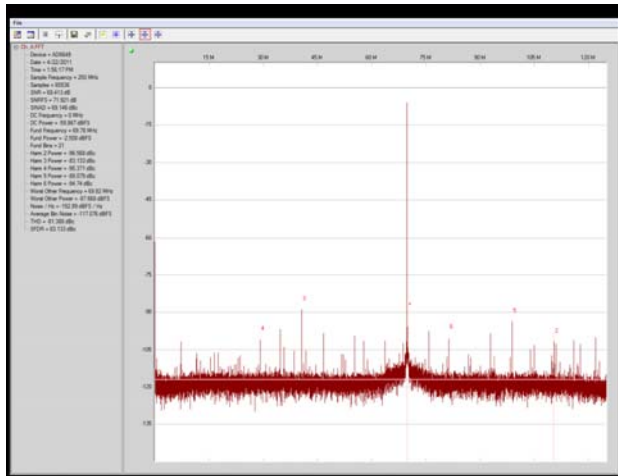
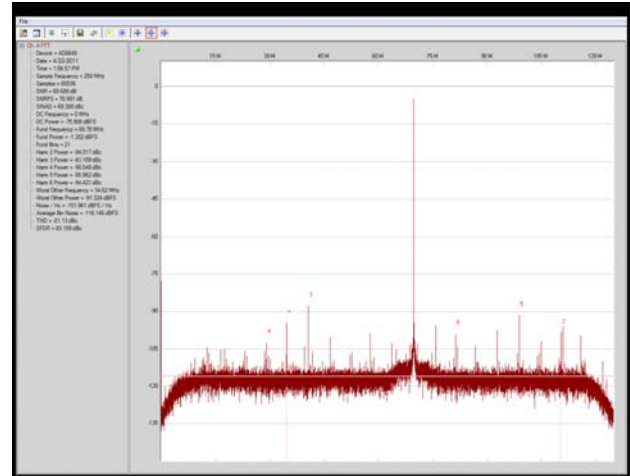

Figure 18. Visual Graph Window of VisualAnalog (AD6649)—95 MHz FIR Filter and Fixed-Frequency NCO Mode
Figure 19. Visual Graph Window of VisualAnalog (AD6649)—100 MHz FIR Filter and Tunable-Frequency NCO Mode
- If operating the AD6649 in the mode using the 95 MHz FIR filter and fixed-frequency NCO, the amplitude displayed is -2.5 dBFS for a -1.0 dBFS input signal (see Figure 18) to the desired settings. If operating the AD6649 in the mode utilizing the 100 MHz FIR filter and tunable-frequency NCO, the amplitude displayed is -1.3 dBFS for a -1.0 dBFS input signal (see Figure 19).